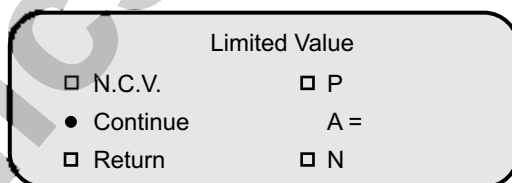

Fig. 10: Limited Value Input
- After you enter the value, the cursor will stay on **Continue**. Press **Enter** key to go to sub menu (Fig. 10). If you want to return to the main menu, press **Reset** key; if you want to return to the superior menu, press ▼ till the symbol in front of **Return** becomes ● and then press **Enter** key.